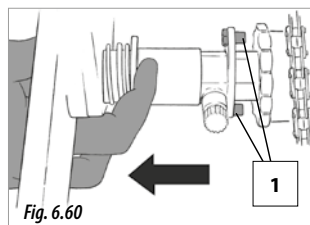

Fig. 6.60
- 1- Shift the clutch by pulling it until the knob gets fixed at the exclusion position (Fig. 6.60).
- 2- Check that the screws (Fig. 6.60) have engaged correctly. If not, move the clutch until they engage.